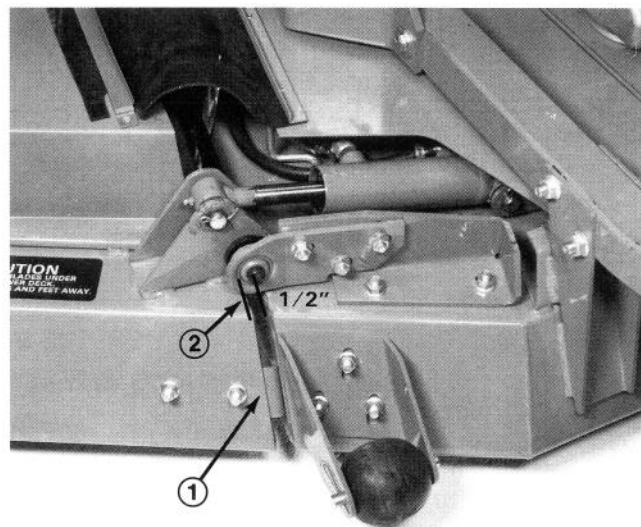

Figure 41
8. Raise or lower lower hinge bushing brackets and/or adjust front and rear stops to achieve proper blade match and height of cut. Each wing section should rest against the front and back stops (Fig. 41). A half inch (13 mm) gap between the wing section and the center section should be maintained (Fig. 41). Torque fasteners to 65 ft. lbs. (90 N·m). Readjust wing lift cylinders and retension belts after making wing adjustments. Install covers on top of cutting unit.